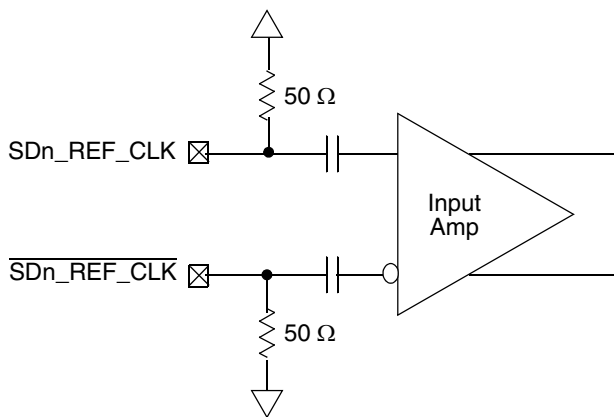

Figure 58. Receiver of SerDes Reference Clocks
Figure 58 shows a receiver reference diagram of the SerDes reference clocks.
- The $\overline{SDn\_REF\_CLK}$ and SDn_REF_CLK are internally AC-coupled differential inputs as shown in Figure 58. Each differential clock input ($\overline{SDn\_REF\_CLK}$ or SDn_REF_CLK) has a 50- Ω termination to SGND (xcovss) followed by on-chip AC-coupling.